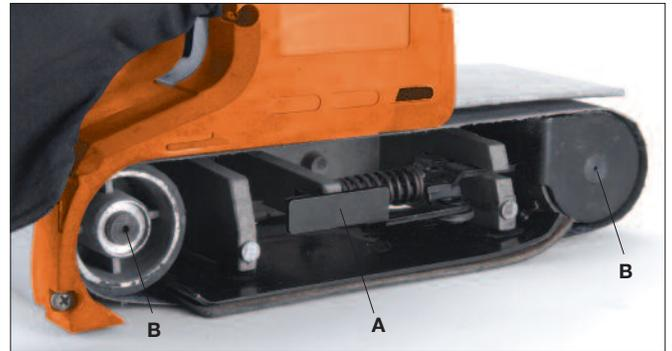

Figure 3
To change the sanding belt, pull Lever (A) Fig. 3 which will release the belt tension. Pull the sanding belt off the two rollers (B). Also make sure the rear roller is free of all debris before installing belt. Place the new sanding belt in place around the two rollers. The belt should be centered between the front and the rear rollers. Push the Lever (A) towards the rear to increase the tension on the sanding belt.